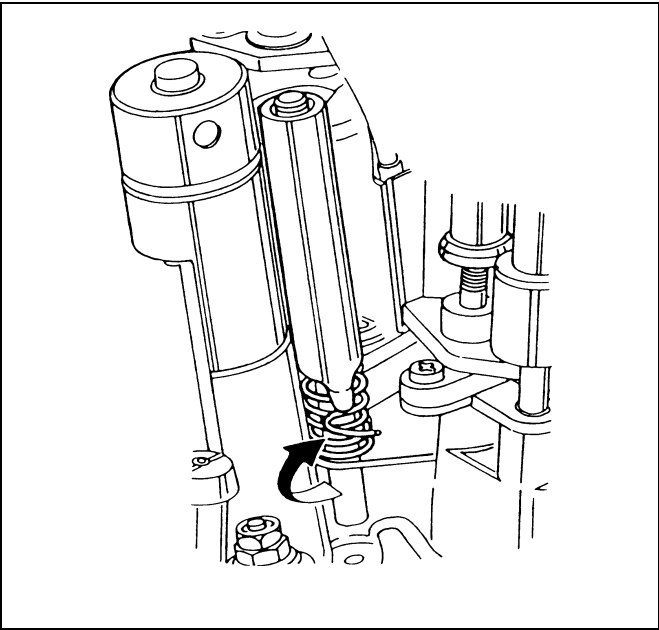

Figure 7-7-5 Installation of the spring
- 5. Hang on height adjustment spring and, tighten nut (A) as shown in Figure 7-7-5.